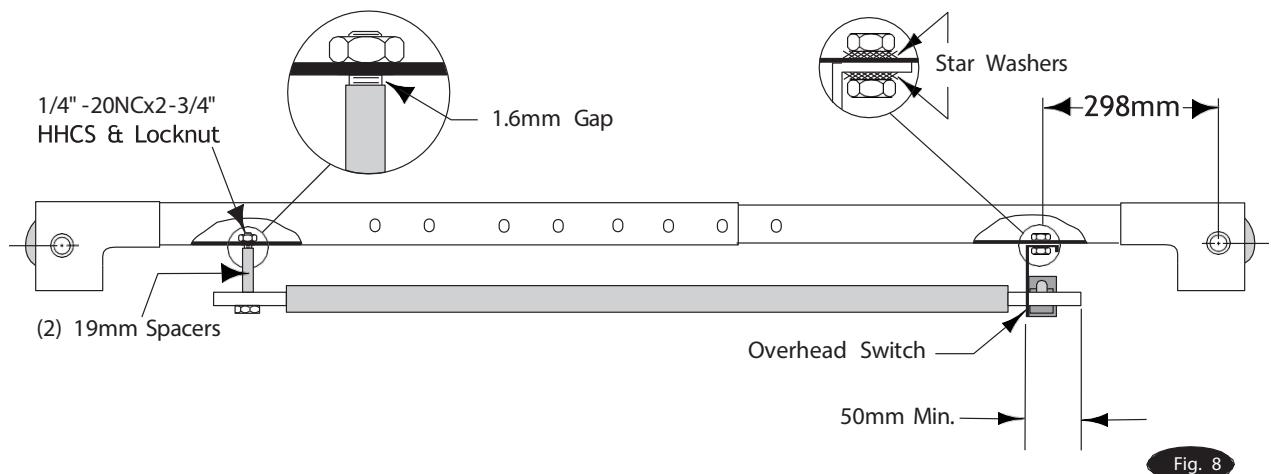

Fig. 8
Insert 1/4"-20NC x 2-3/4" HHCS through pivot hole in end of switch bar. Insert opposite end of bar through slot in switch mounting bracket Fig 8. Then secure HHCS and Switch Bar to overhead as shown, using (2) 19mm spacer and 1/4"-20NC Locknut. Tighten Hex bolt leaving 1.6mm gap between the spacer and the overhead assembly.